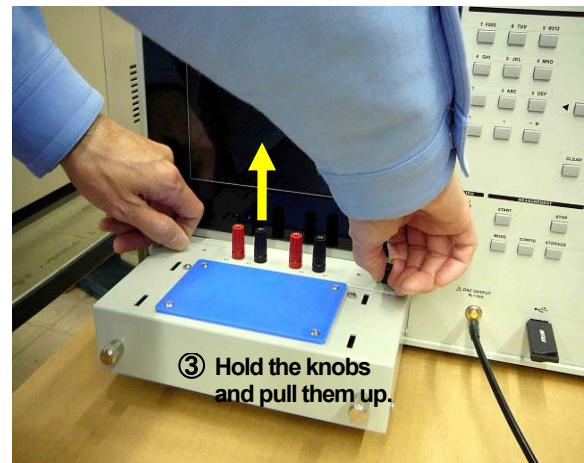

Fig.2-4 Connection of chamber cable
- ③ Hold the terminal base knobs with both hands and pull up them (see Fig.2-4).